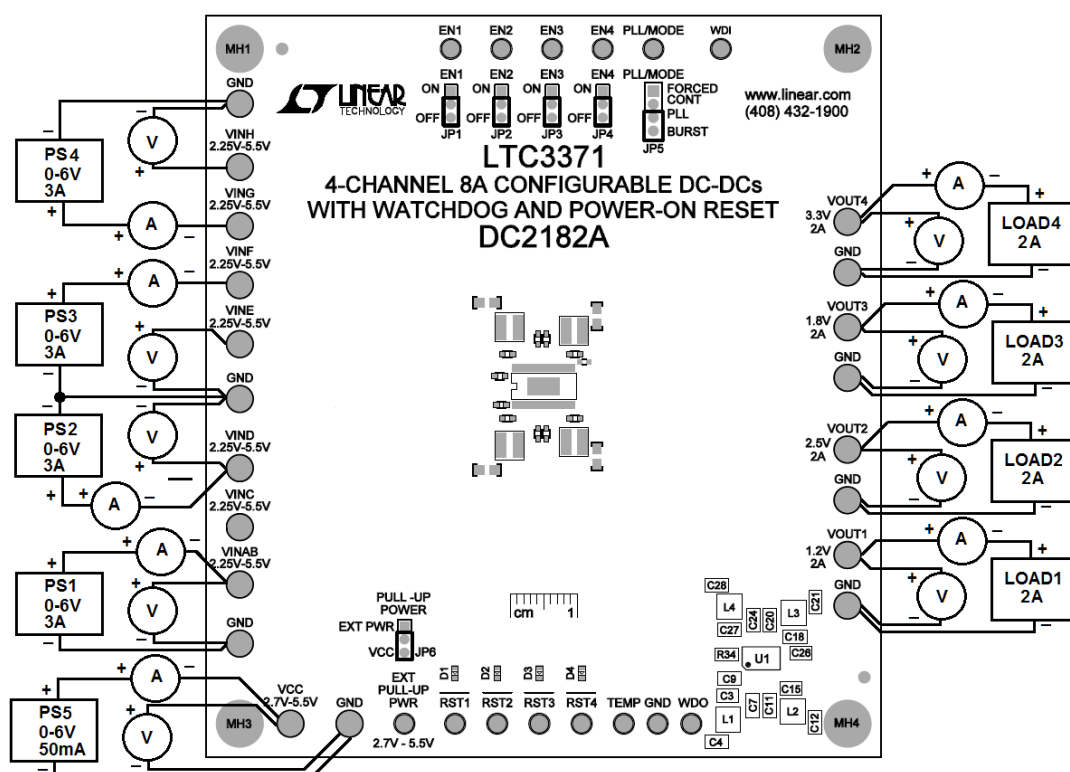
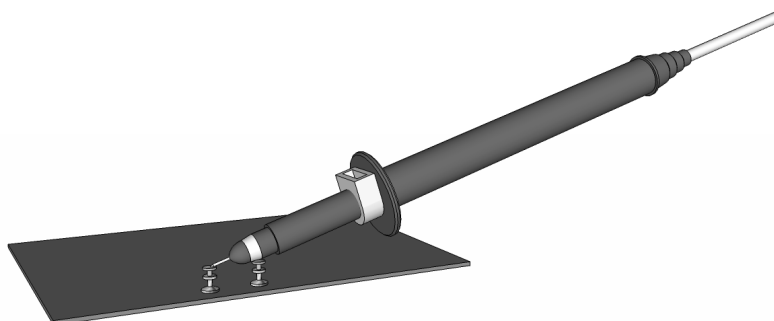

Figure 1. Proper Measurement Equipment Setup
Figure 2. Measuring Input or Output Ripple
The DC2182A is easy to set up to evaluate the performance of the LTC3371. Refer to Figure 1 and Figure 2 for proper measurement equipment setup and follow the evaluation procedure below.
NOTE. When measuring the input or output voltage ripple, care must be taken to avoid a long ground lead on the oscilloscope probe. Measure the input or output voltage ripple by touching the probe tip directly across the  $V_{IN}$  or  $V_{OUT}$  and GND terminals. See Figure 2 for proper scope probe technique.
7. With power off, connect 0V to 6V, 3A power supplies to each input pair (PS1-PS4),  $V_{INAB}$ ,  $V_{INC}/V_{IND}$ ,  $V_{INE}/V_{INF}$ ,  $V_{ING}/V_{INH}$  and GND with a series ammeter and a voltmeter as shown in Figure 1. A single 0V to 6V, 10A supply can be used instead to supply all  $V_{IN}$  inputs and the  $V_{CC}$  input simultaneously.
9. With power off, connect a 0A to 2A load to  $V_{OUT1}$  and GND with a series ammeter and a voltmeter as shown in Figure 1.
10. Slowly increase the load from 0A to 2A and observe the output voltage. The output ripple may also be observed using an oscilloscope with the probe connected as shown in Figure 2.